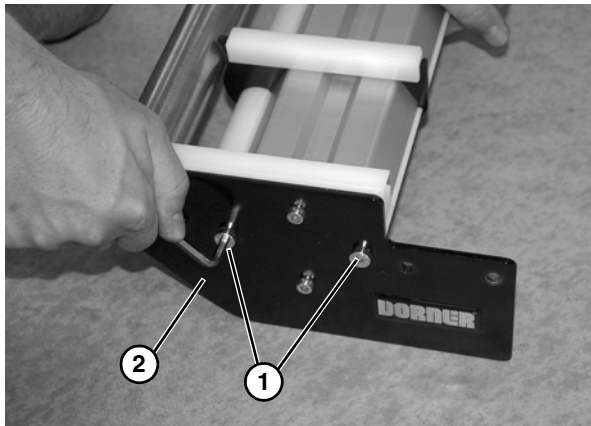

Figure 69
4. Remove two low head cap screws (**Figure 69, item 1**) from plate (**Figure 69, item 2**). Repeat procedure on opposite side.